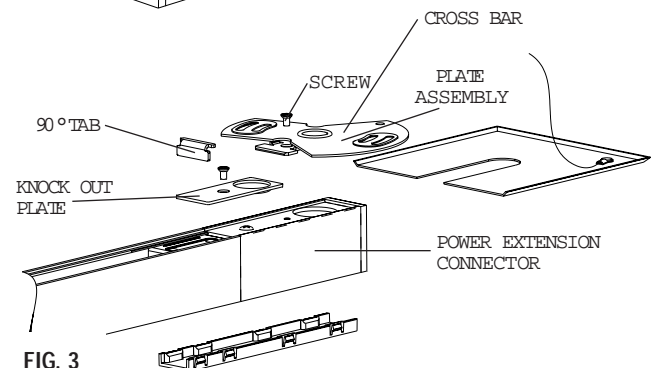

FIG. 3
- POWER EXTENSION, IN-LINE, "T", AND "X" CONNECTORS: BREAK THE 90° TAB OFF THE PLATE ASSEMBLY. (Fig. 3)